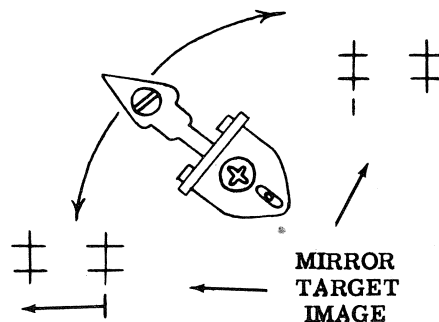

Figure 21. Rangefinder Image Alignment
c. Correct the rangefinder image alignment at the infinity position as follows (figure 21).